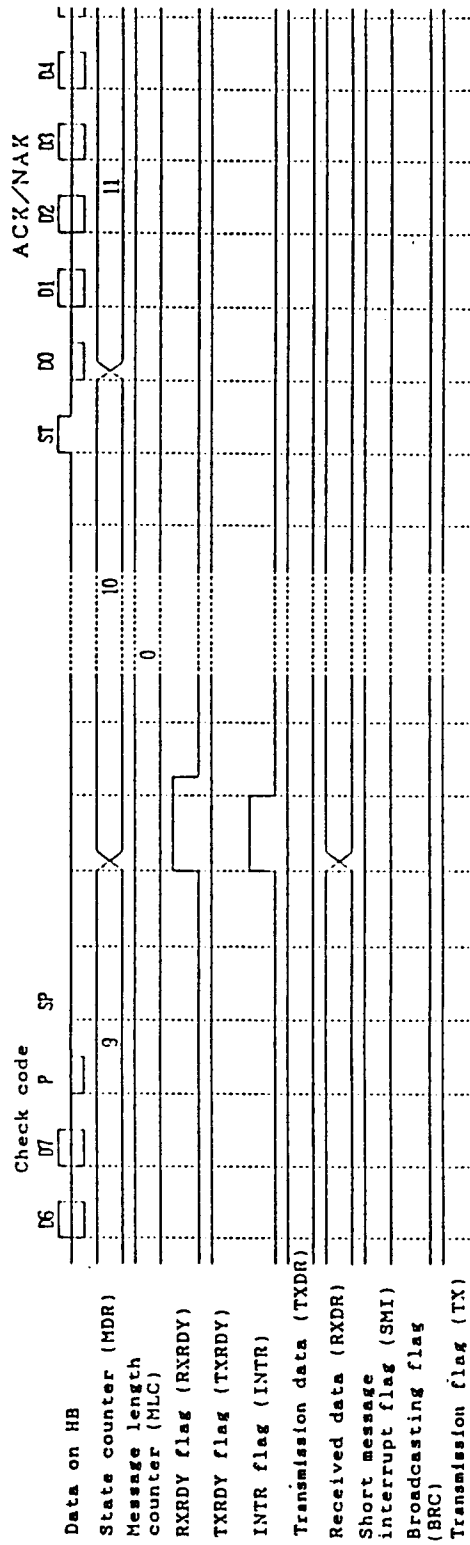
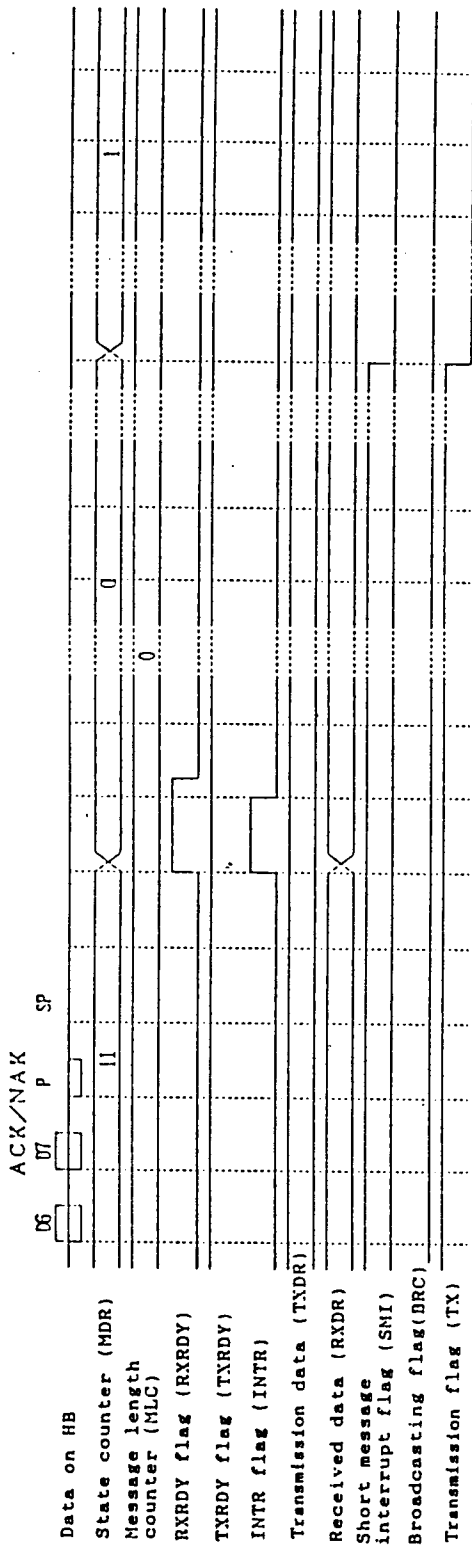

Figure 4.29 Check code through ACK/NAK operation of sending packet
Figure 4.31 End of sending packet (individual)
Figure 4.29 shows the case of individual packet.
In Figure 4.29, MDR changes from 9 to 10 and from 10 to 11. Interrupt is disabled at the MDR = 11 portion. Figure 4.29 shows the transmission flag (TX) rises to indicate local sending during ACK/NAK receiving.
Figures 4.31 and 4.32 follow Figures 4.29 and 4.30.
Figure 4.31 shows individual packet sending.
In Figure 4.31, the transmission flag (TX) falls when MDR changes from 0 to 1.